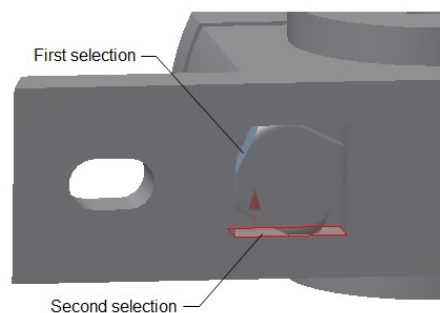

Figure 9-89 Faces selected for applying the **Angle** constraint
7. Select the side planar face of the Bolt head and the inner planar face of the slot, as shown in Figure 9-89.